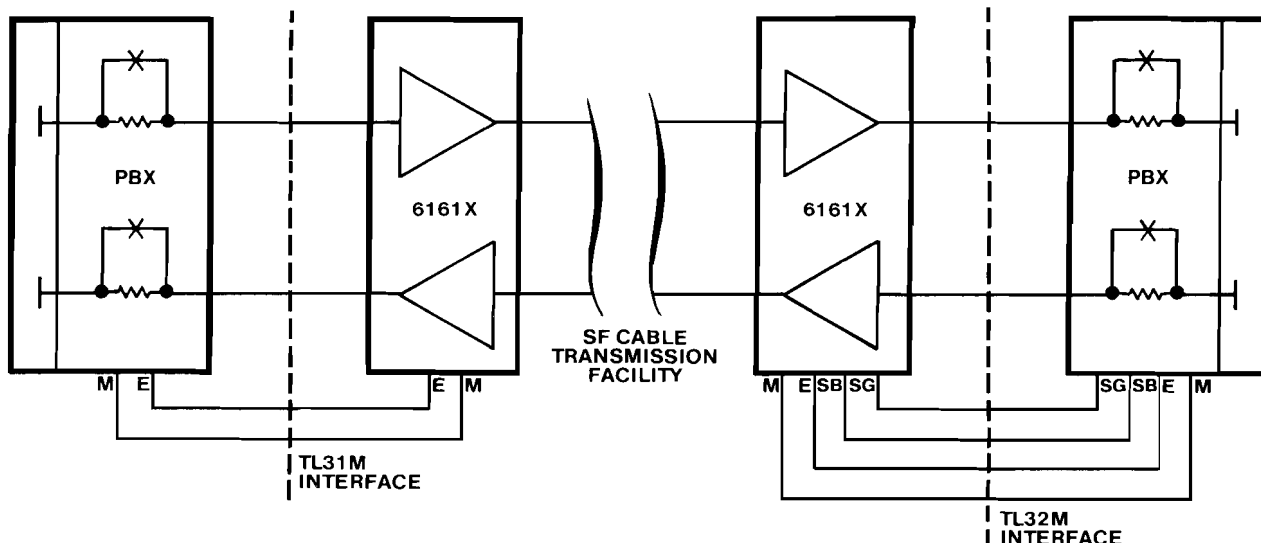

figure 2. Typical short-haul tie-trunk circuit using 6161X-family NCTE modules
2.01 The 6161X-family 4Wire-to-4Wire SF-to-E&M Terminal Repeater modules are typically used to interface a 4wire SF transmission facility with a 4wire E&M trunk or line associated with a two-way dial/supervisory telephone circuit. No external transmission interface circuitry is needed because the 6161X-family modules combine the functions of a 4wire line amplifier, an SF transceiver, an SF-to-E&M signaling converter and a 4wire pad/transformer module. Figures 2 through 4 show three typical applications.